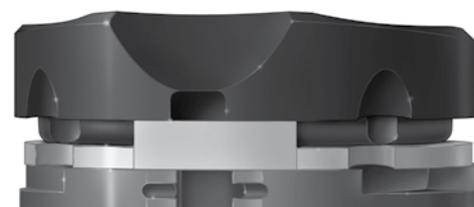

Figure 61
Step 2: Place the PTS trial onto the Optetrak Logic tibial tray trial. Place the Optetrak Logic tibial insert trial onto the Optetrak Logic PTS trial (Figure 61). Proceed with the trial reduction to assess stability. If the flexion and extension gaps are loose, select the next thickness insert trial and re-assess. Once the flexion and extension gaps have been properly balanced after the trial reduction, proceed to the final preparation of the tibia.